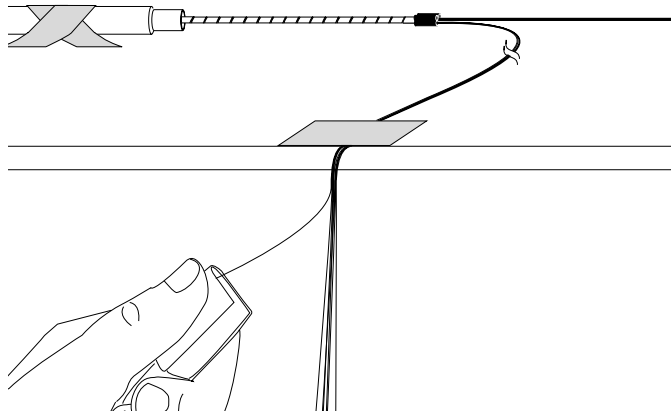

Figure 15
**6.21** Use an alcohol-soaked lint free tissue to thoroughly clean the acrylate residue from each fiber (Figure 15).